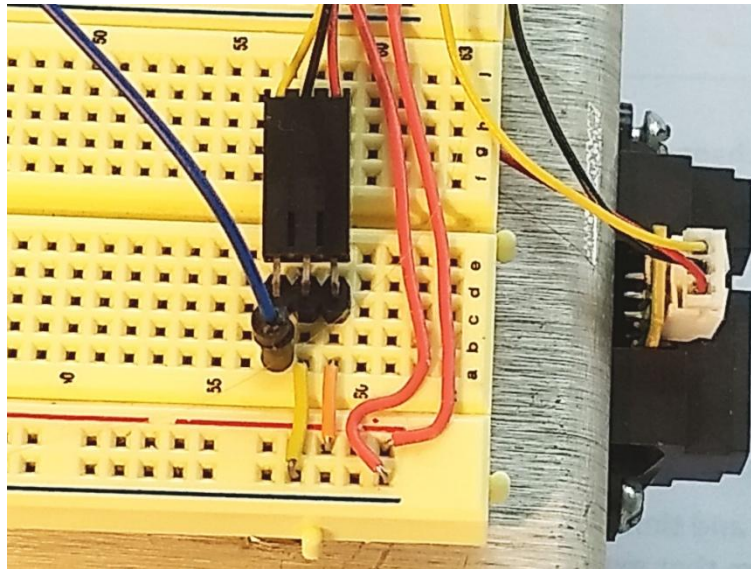

Figure 10. Breadboard set-up for front sensor with yellow, black and red wires.
**1. Connect the cables from the three sensors to the breadboard using three bent headers, three short orange jump wires, three short yellow jump wires, and three flexible jump wires, as shown in Figure 10.**
**2. Insert a flexible jump wire, a three-prong bent connector, a short yellow jump wire, and a short orange jump wire into the breadboard, as shown in the Figure 10 below.**